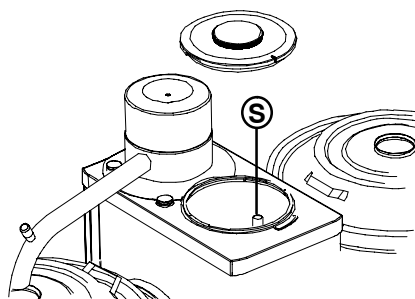

Fig. 22 Overflow pipe hot water system
- Discharge the last bit of water through the overflow pipe. For this, pull the overflow pipe (S.), that is found in the hot water boiler, up by the short hose (fig. 22).
- Discharge the last bit of water through the overflow pipe. For this pull up the overflow pipe (S., fig. 22 ).